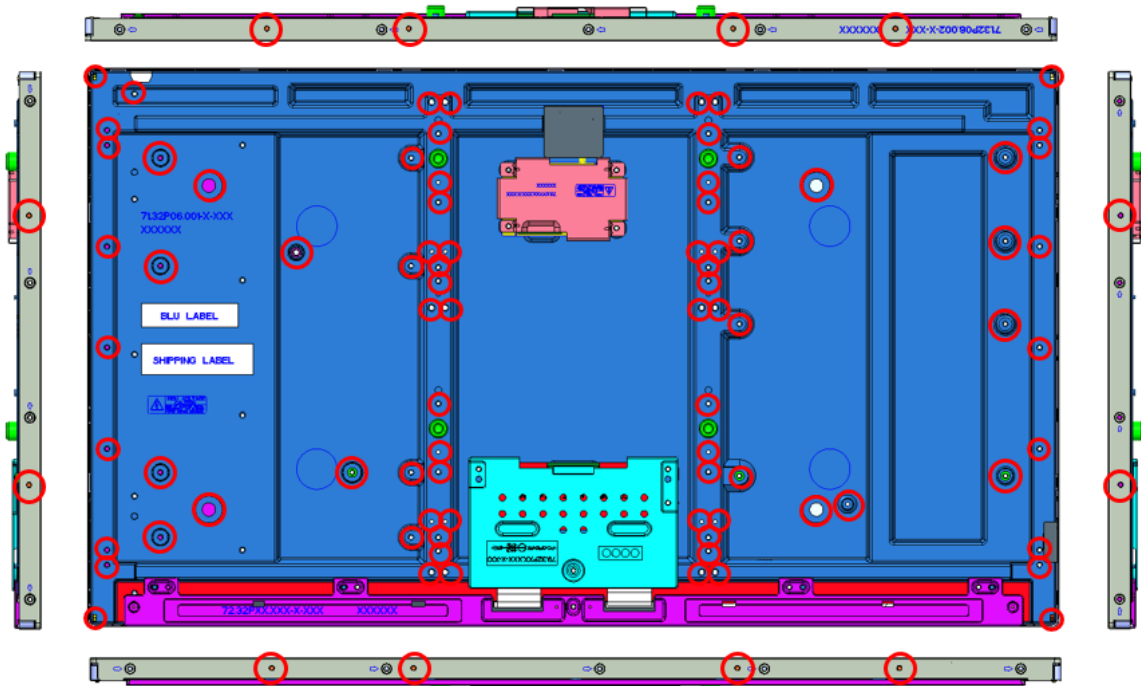

Figure 1
- (1) AUO module dust tests are conducted with marked areas (e.g., holes and slits around the front bezel and back cover) sealed, to comply with JIS D0207 (see Figure 1).
- (2) To prevent particles from entering the module, please ensure the set has all the highlighted areas (holes and slits) adequately sealed or covered by set mechanism.
- (3) AUO's testing procedure cannot replicate all real world operation scenarios. It is up to the module user to apply the most appropriate dust resistance solution for its particular application.